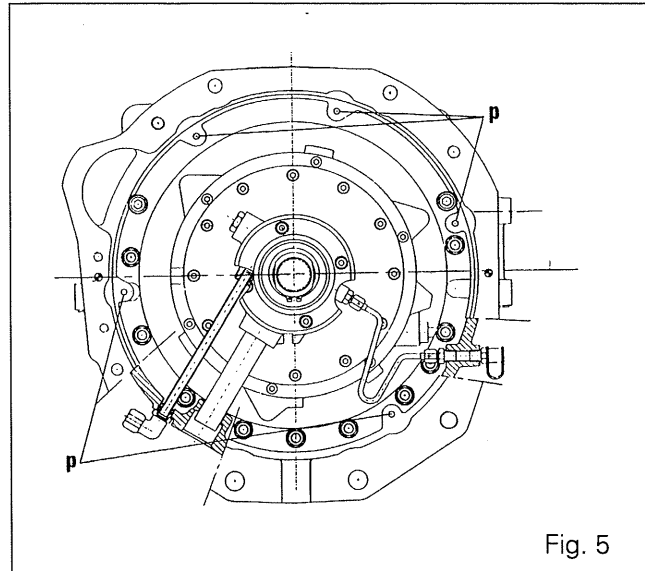
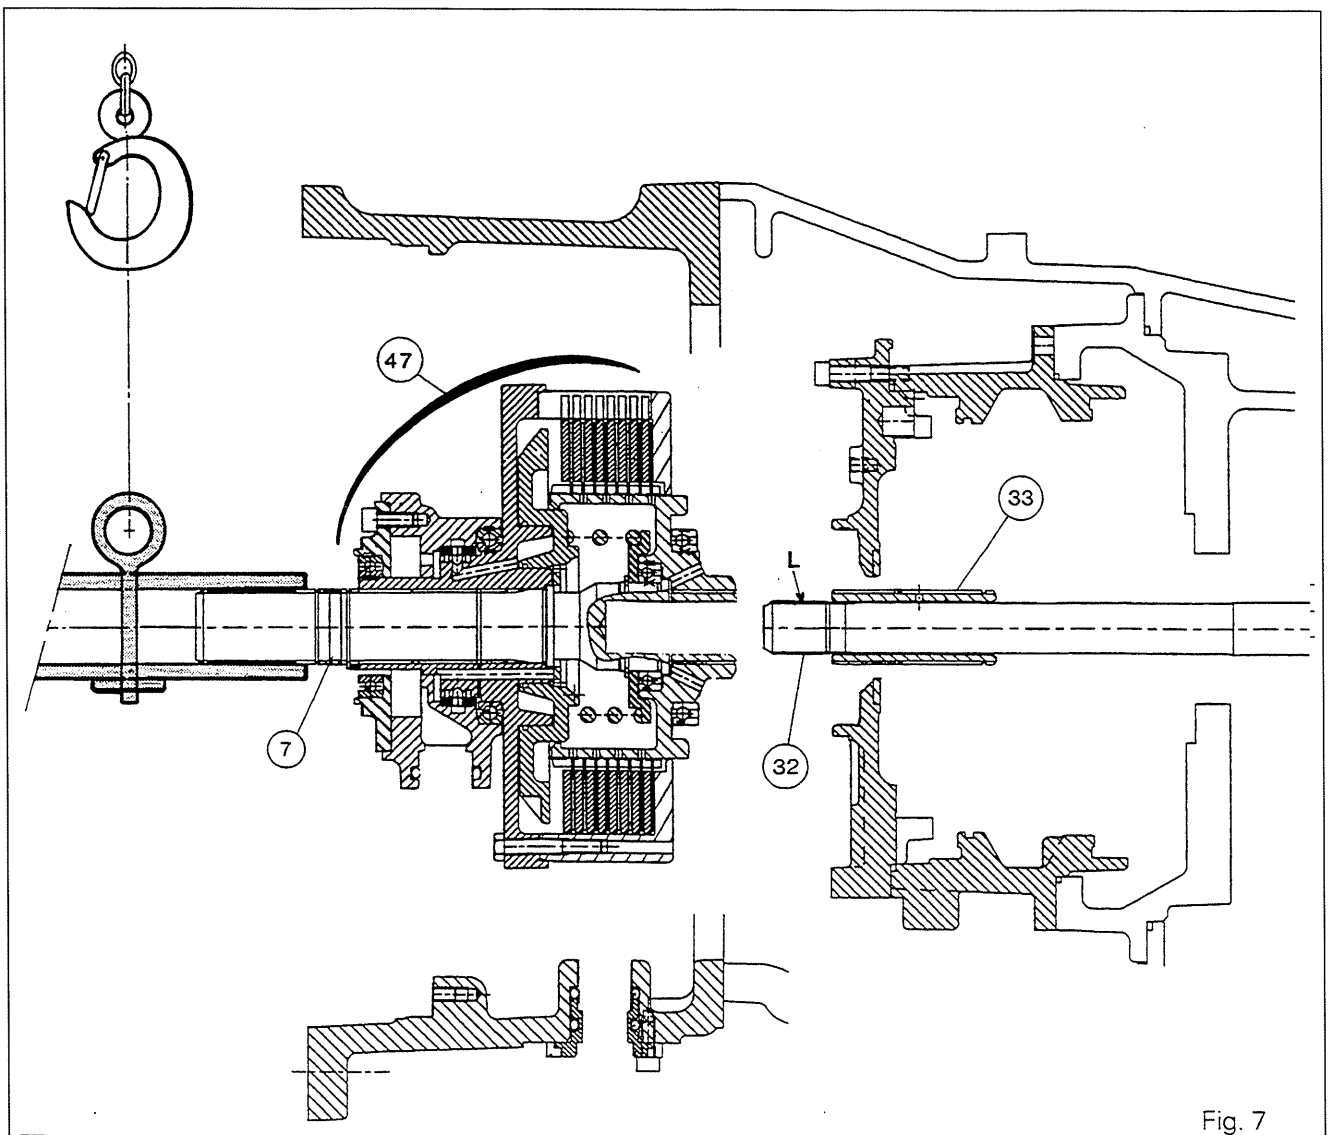
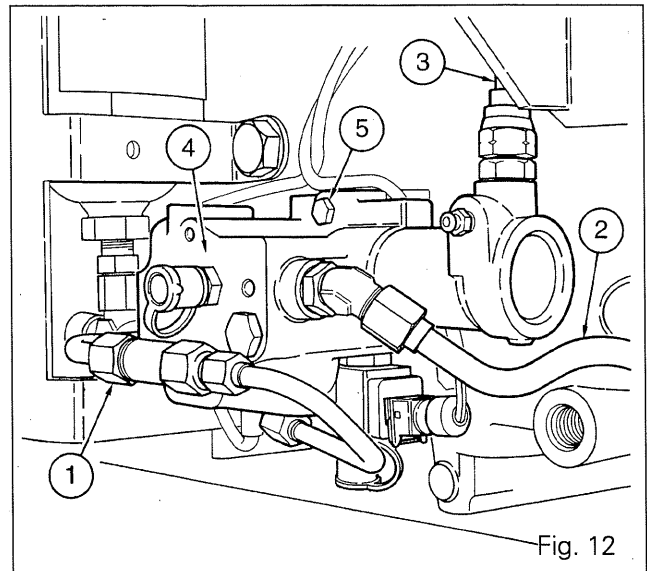

Fig. 5
Fig. 7
Fig. 12
15. Fit the oil seal (57) with a suitable fixture.
16. Place the O-ring (1) between bushes (2). Reinstall the splined bush (3). Replace the circlip (58) and position it correctly in the recess.
17. Check that the locating dowels (61) and shims (9) are in place.
18. Replace the O-ring (8).
19. Apply Loctite 510 to the periphery «P» of the tapped holes (Fig. 5).
29. Remove the tube (20).
30. Remove the union (72) and tubes (70) and (65).
31. Remove the clutch assembly (47) using a locally manufactured tool (Fig. 7).
32. Remove the PTO shaft (32).
34. Remove the clutch assembly (47) from the primary shaft (33) with the tool used for procedure 31. Place a 2 mm thick shim [9] on the cover (11).
35. Grease the oil seal (57). Protect the splines on shaft (7) with protective device 3378012M1. Screw two studs in diametrically opposite positions on the spacer and refit the plate (10).
36. Position a dial gauge at the end of the shaft (7) and check the play, while moving the clutch assembly sideways.
**Note: Make sure that the clutch assembly is correctly positioned in contact with the cover (13) before pulling on the shaft.**
37. Remove the plate (10) and, according to the play measured, select a thickness of shims [9] to obtain a play of **J1 between 0.6 and 0.8**.
38. Remove the clutch and refit the PTO shaft (32), with the long splines **L** towards the input shaft (7) (Fig. 7).
40. Replace O-rings (15) and (71).
41. Refit the tubes (20), (65) and (70) and the union (72).
42. Apply miscible grease on the shims [9], selected during operation 37, and place them on the pump cover (11).
43. Refit the feed tube (2) (Fig. 12).
44. If the finger (63) was removed, smear it with Loctite 270 and screw it onto the cover plate (10).
45. Check that the locating dowels (61) are in place. Replace the O-rings (8).
46. Clean the periphery «P» of holes and apply Loctite 510 (Fig. 5).
## F. Removing and refitting the control valve (Fig. 12)